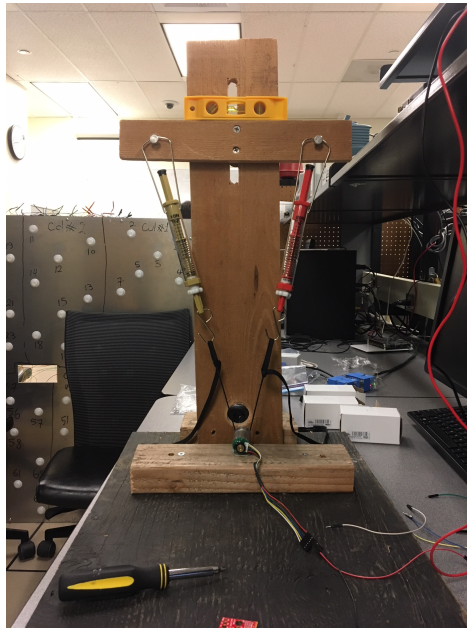

Figure 1: Prony brake setup
Attach each end of the shoelace to the Newton spring scales. Both ends should be under equal tension when placed under the stationary drive wheel (see Fig. 1). Record the speed, current, and the driving torque. The driving torque is calculated using (3). Note that the net force  $F_{net} = F_2 - F_1$ , where  $F_2$  and  $F_1$  are the measured forces from the spring scales. Increase the prony brake height in 1 cm increments and record the speed, current, and torque. For higher driving torques, the prony brake height can be increased in 0.5 cm increments.